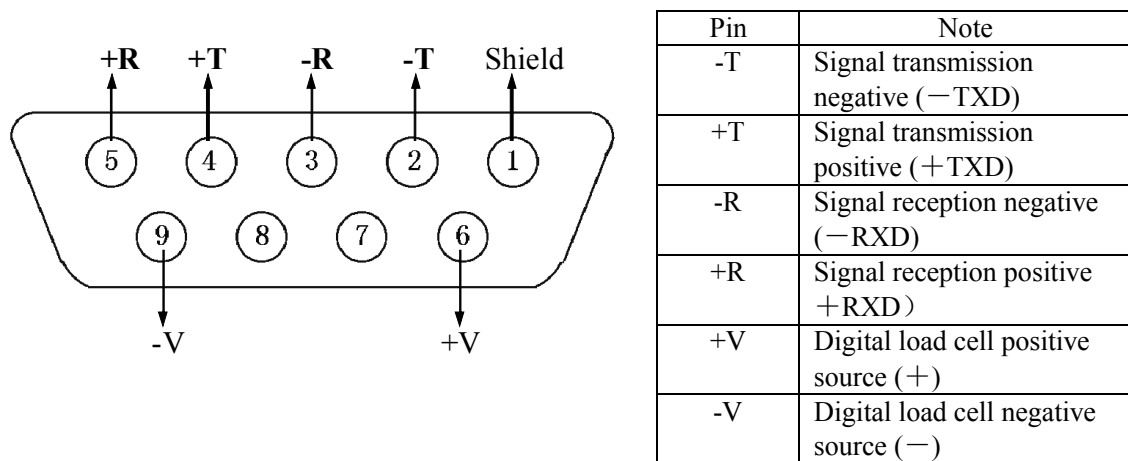

Figure 2-1-1 Digital load cell interface and description
2. XK3190-DS8 load cell is equipped with 9 core connector assembly for connection. Meanings of all pins are marked in Figure 2-1-1.